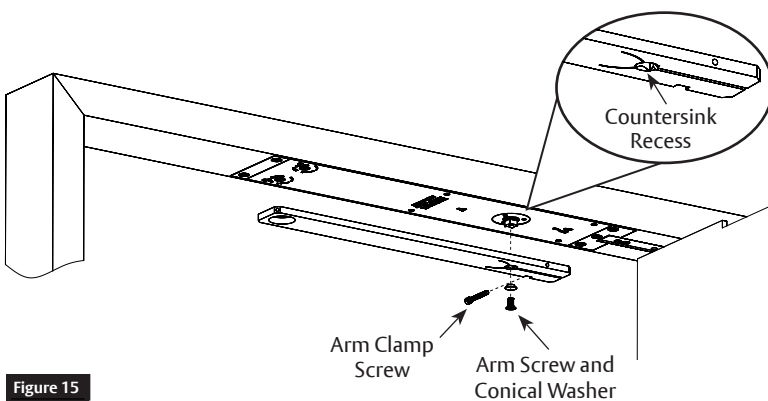

Figure 15
1. Attach arm to closer shaft with 1/4-20 x 1/2" machine screw and washer. Tighten securely. (Figure 15)
2. Insert 10-24 x 1-1/2" socket head cap screw into arm and clamp arm tightly to pinion square. (Figure 15)
1. With provided 1/8" hex wrench, completely tighten latch and sweep valves by turning clockwise. This will allow for an easier closer-to-door connection. (Figure 15)